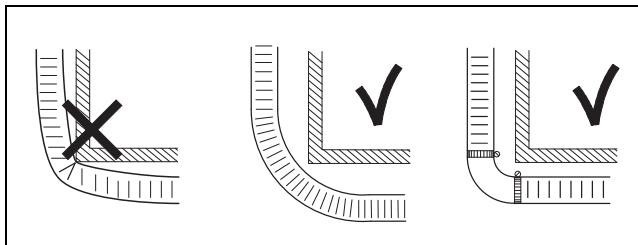

Fig. 12 Recommended routing around corners
- Prevent from chafing, see Fig. 12.